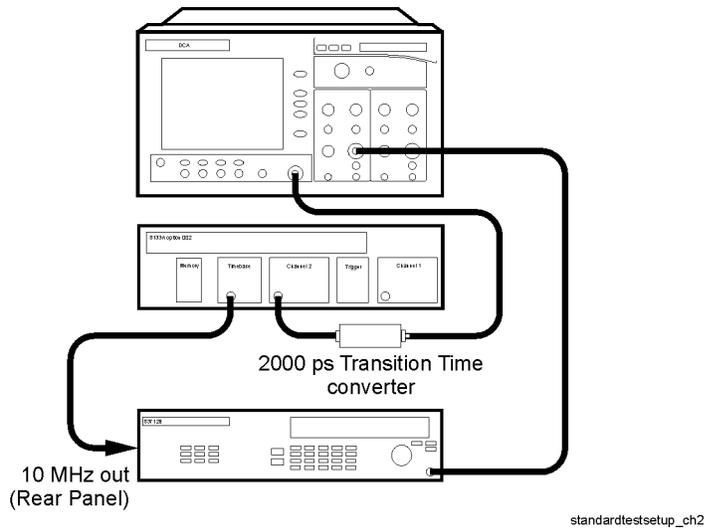

Figure 2-1. Time Interval Accuracy Setup
- 2 Connect the equipment as shown in Figure 2-1.